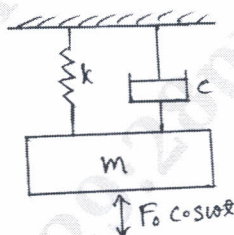

Fig.Q.5(b)
- b. A mass of 10 kg suspended from one end of helical spring, the other end is fixed, as shown in Fig.Q.5(b). The stiffness of the spring is 10 N/mm. The viscous damping causes the amplitude to decrease  $1/10^{\text{th}}$  of initial value in four complete oscillations. If a periodic force of  $(150 \cos 50 t)$  N is applied at the mass with vertical direction, determine the amplitude of forced vibration. What is its value at resonance? (10 Marks)